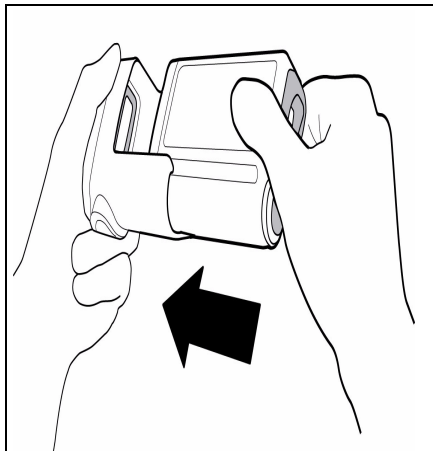

FIGURE 10-7 Inserting Telepack-608 into SpO₂ Module
4. Align the two devices (shown in FIGURE 10-7) and then slide the SpO₂ Module into the Telepack-608. First, the connectors are mated; Continue pushing the devices together firmly until a loud audible "click" is heard as the mechanical latch is engaged.